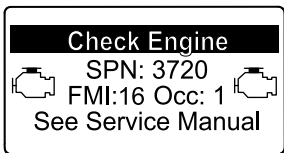

Figure 51
- Engine warning SPN 3720, FMI 16 (Figure 51)